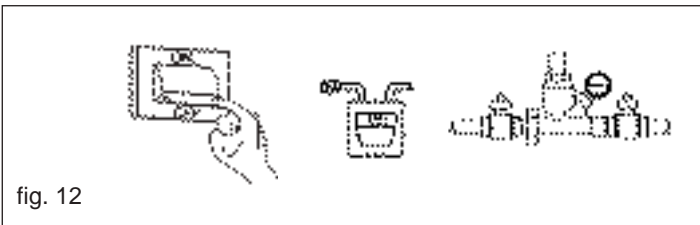

fig. 12
- set the system's main switch to "off" (fig. 12),
- perform the analysis of the combustion products to check the boiler operation status then cut the electrical supply by turning off the system's general switch (fig. 12).